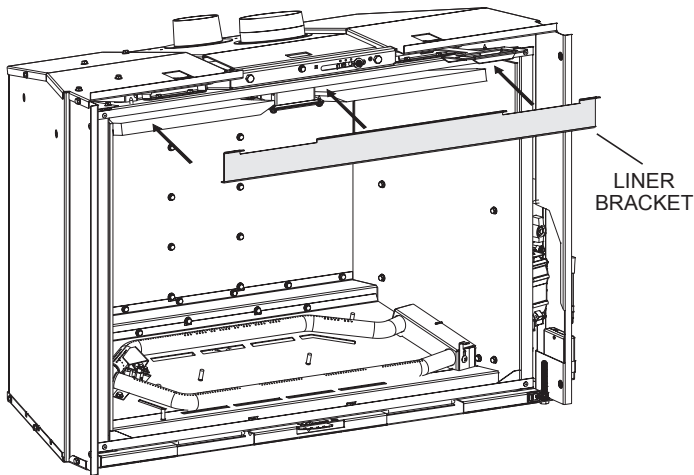

Figure 9
10. While holding ceramic fiber top liner, place liner bracket in position as shown. Insert three screws where shown. **See Figures 9 and 10.**